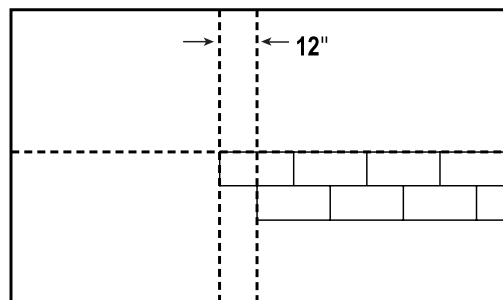

Figure 8 - 1/2 Drop Layout.
- Snap a second perpendicular chalkline 12" away from the first perpendicular line (Fig. 8). Complete a dry layout in the first 2 rows starting from the perpendicular chalklines. If the border tile in either row is less than 6", adjust the perpendicular lines 6" in either direction.